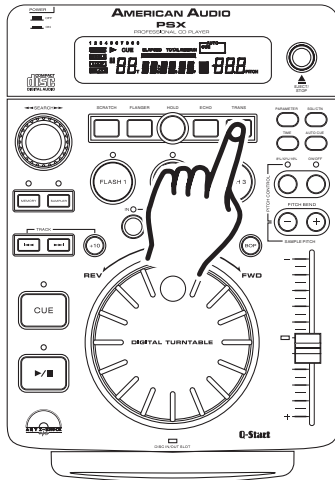

Figure 48
TRANS EFFECT: The TRANS effect simulates a real-time mixer transformer effect. Pressing *TRANS BUTTON* (29) will activate the "Transformer" effect (figure 48). When the "Transformer" effect is activated the *TRANS BUTTON* (29) will glow.